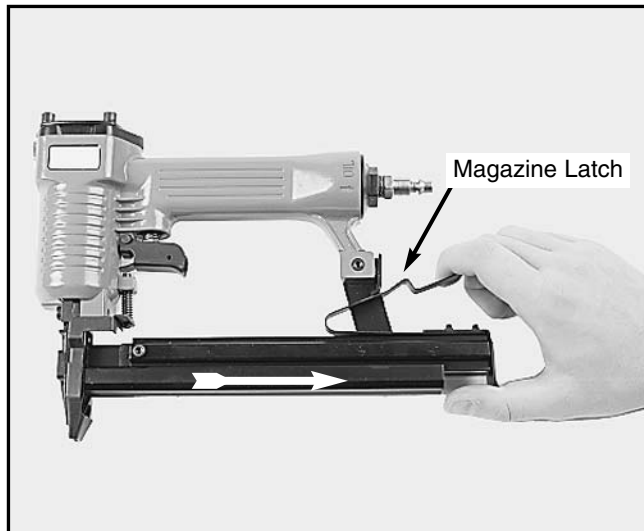

Figure 3. Releasing the magazine.
2. Press down on the magazine latch that holds the magazine in place. **Figure 3.**